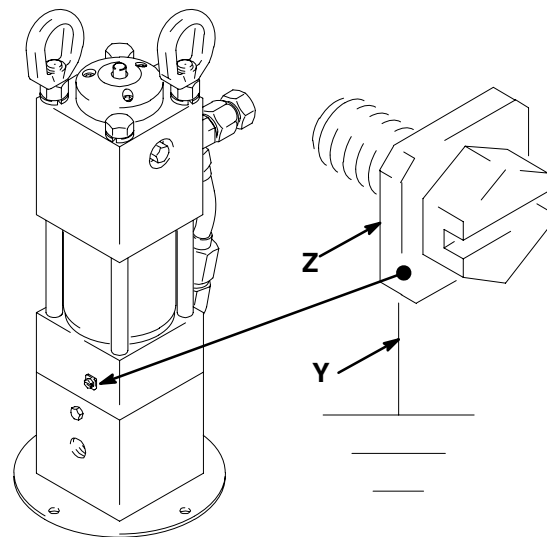

Fig. 1
1. **Pump:** Use a ground wire and clamp as shown at the right. Remove the ground screw (Z) and insert through the eye of the ring terminal at end of ground wire (Y). Fasten the ground screw back onto the pump and tighten securely. Connect the other end of the ground wire to a true earth ground. See Fig. 1. To order a ground wire and clamp, order Part No. 222011.